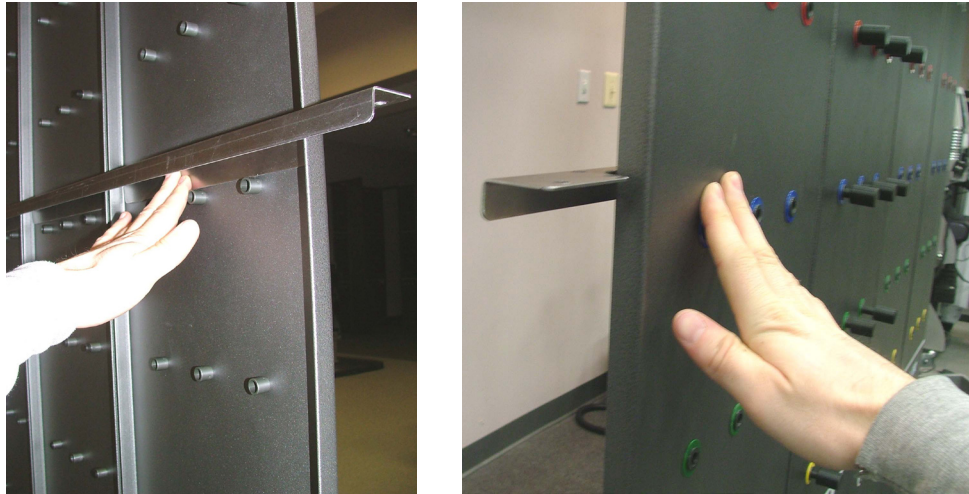

Figure 1-17. Secure the Back Bracket to Panels 1-4
- Step 5. Firmly push the back bracket into Panels 1-4 while supporting the front side of the panels (Figure 1-17).